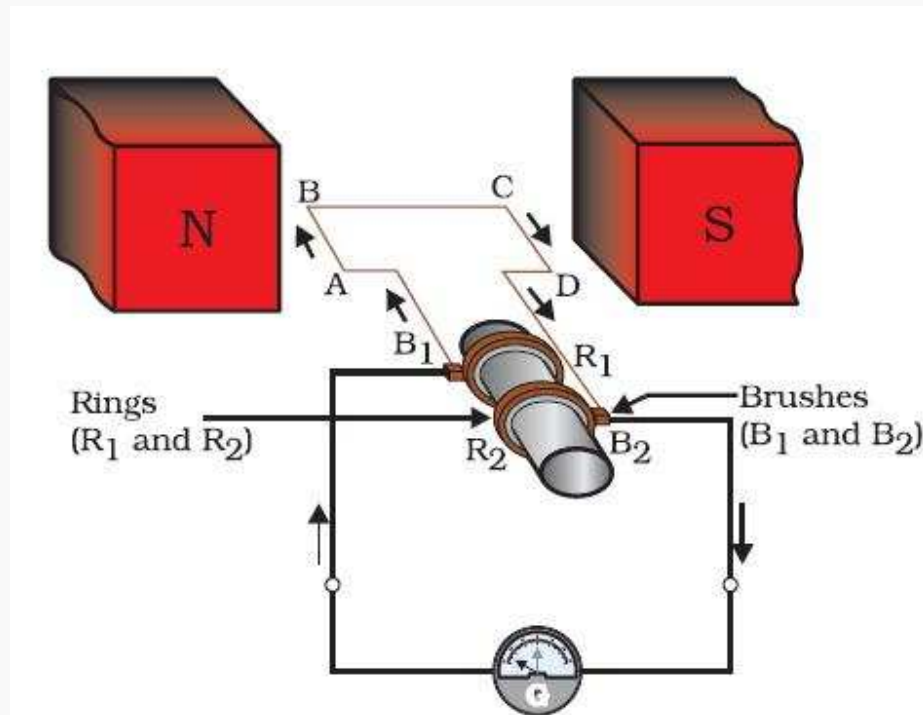

Fig 1. Elementary generator is an example of single-phase generators with two poles
*For the conductor of active length l moving with a velocity of v in a magnetic field of flux density B , as shown in Fig. 1, the instantaneous induced emf is expressed as,